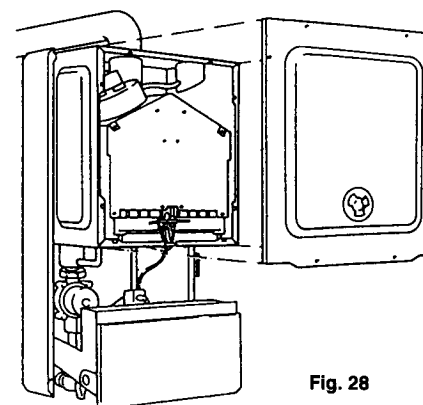

Fig. 28
Part No 5904 Refer to fig 28
8.5.2 Remove roomsealed front cover plate by releasing eight screws (fig. 28) and easing cover off. The screws are not captive. Inspect gasket for damage. If damaged, replace.